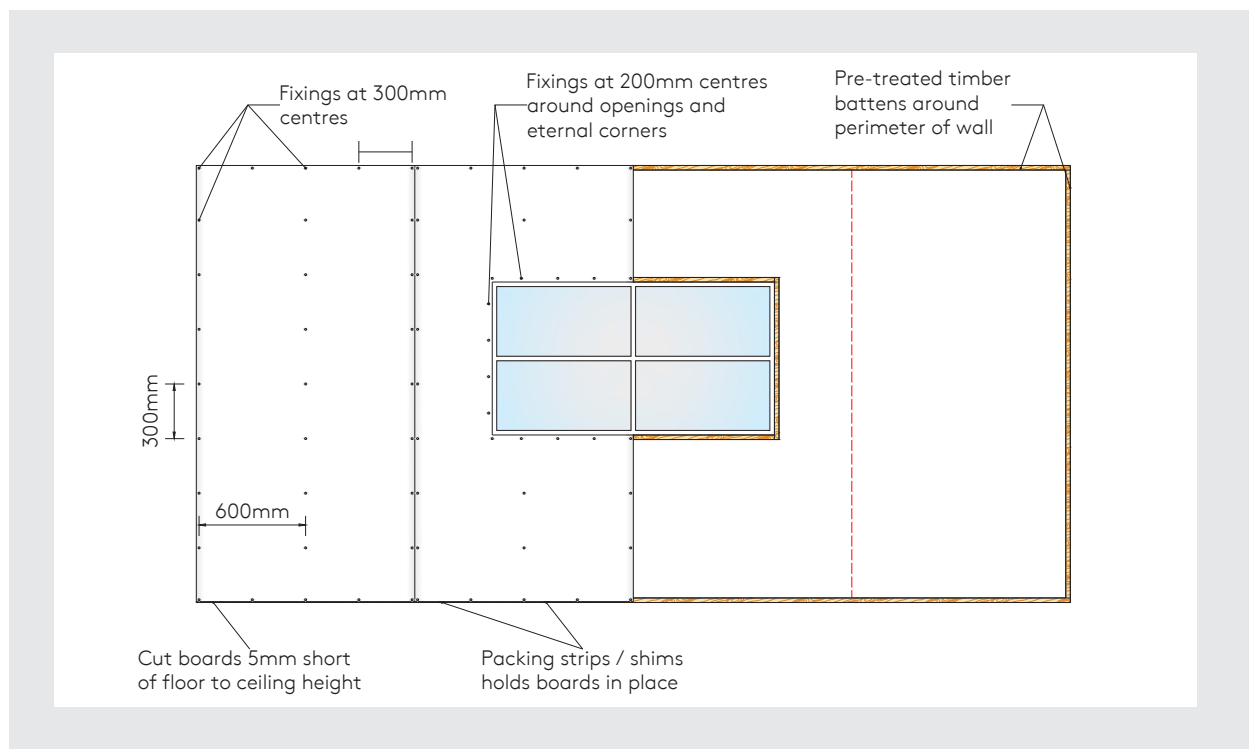

Figure 15 – Drywall Screw Fixing Pattern
- Kingspan Kooltherm® K17 Insulated Plasterboard should be fixed to all the framing members using drywall screws at 300 mm centres, (reduced to 200 mm centres at external corners for metal and timber framework solutions) (Figure 15).